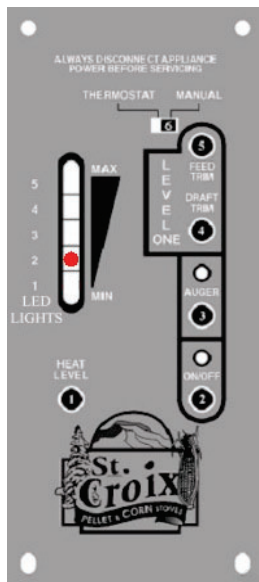

Figure 16
**LED light 2 flashing** - The number 2 LED light on the Heat advance bar will **flash** if the control board senses a loss of vacuum. The stove shuts down and the Number 2 LED light starts flashing **approximately 60 seconds after** a loss of vacuum has been sensed. (Fig 16)